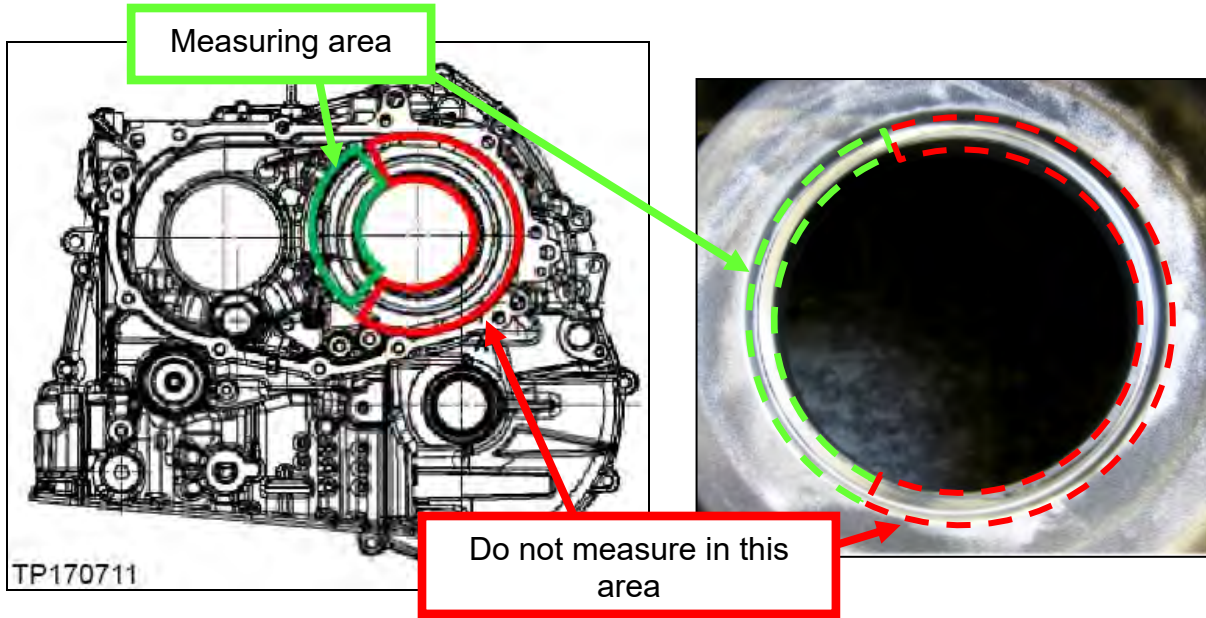

Figure 4M
- Refer to the Figures 4M and 5M and then proceed to page 56.
**IMPORTANT:** Please refer to Figure 4M for acceptable areas (highlighted in green) to measure “Y”.